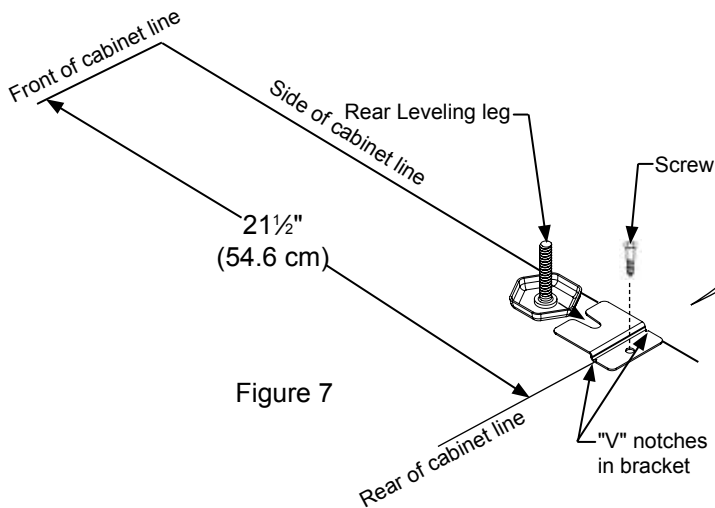

Figure 7
- 3) Make sure the refrigerator is in the desired location, then mark on the floor the rear and side corner of the cabinet where the anti-tip bracket will be installed. If the installation does not allow marking the rear corner of the cabinet, then make temporary lines on the floor marking the front corner of the cabinet, excluding the drawer. Slide the refrigerator out of the way. From the temporary line extend the sidewall line back 21½" (54.6 cm) as shown in Figure 7.
- 5) Fasten the anti-tip bracket to the floor using the supplied screw. (See Figure 7).